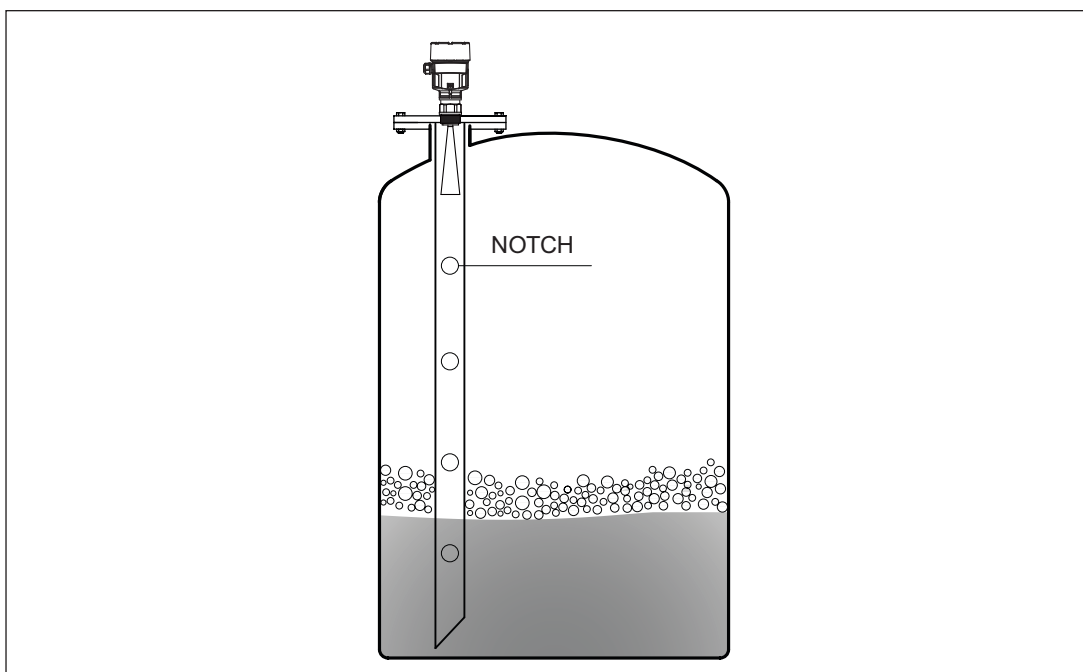
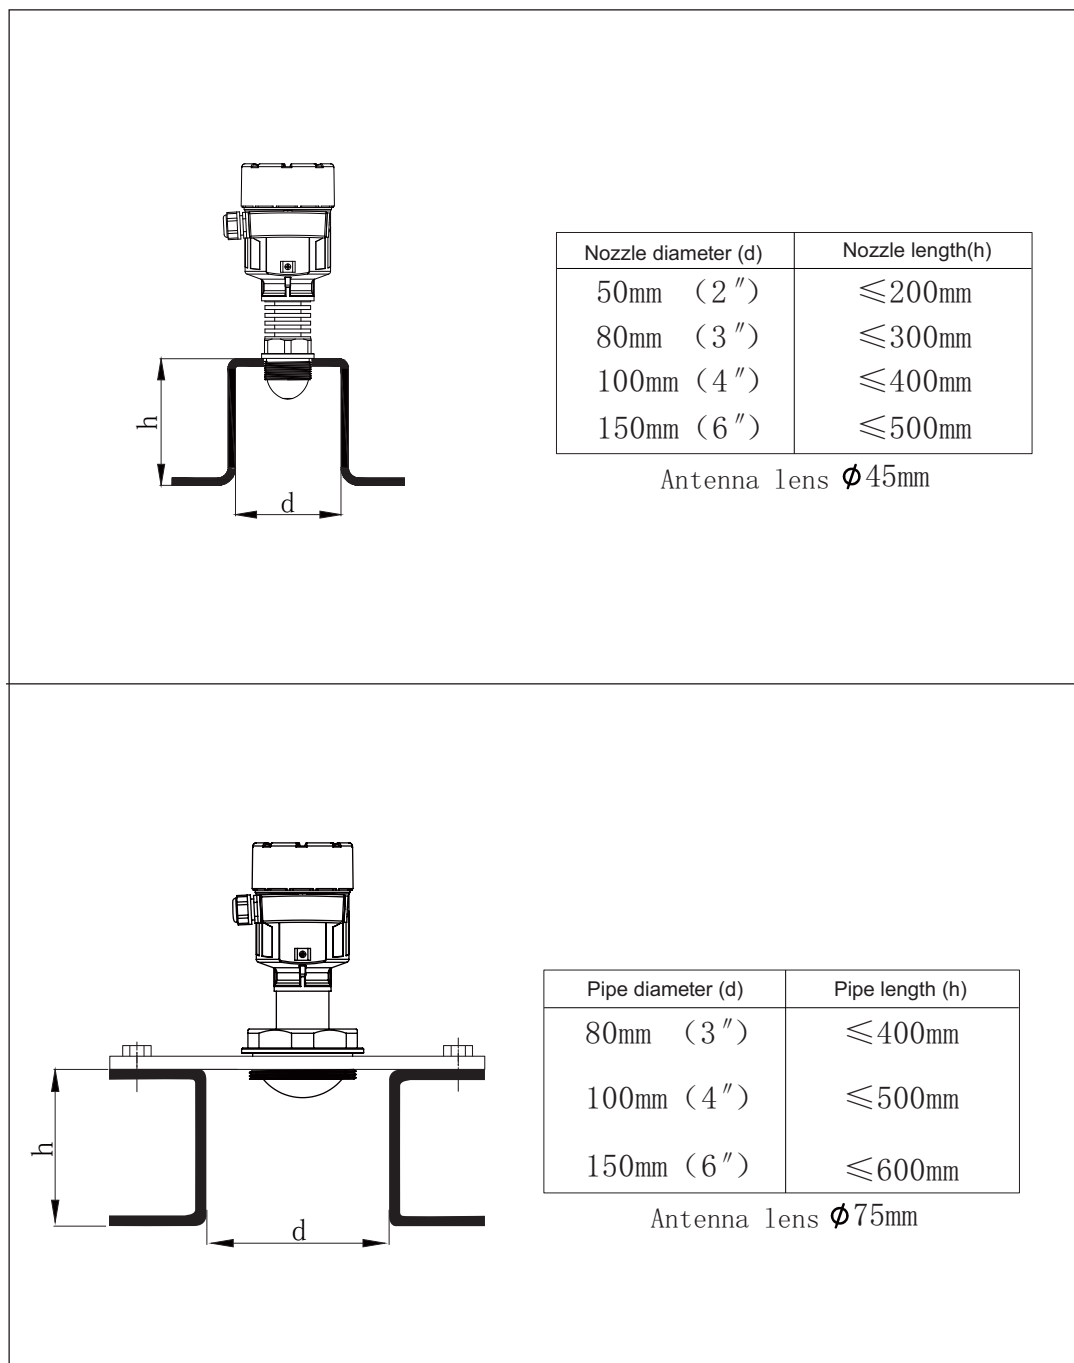

Figure 8
Figure 11
- If the nozzle length of the container is long, please refer to figure 11. The longest installation short nozzle should be smaller than the size shown in Figure 8 as far as possible, and the end must be ground flat without burrs and other protrusions. If necessary, using the "false echo storage" function to eliminate the reflected signal at the end of the container nozzle can also obtain a better measurement effect.